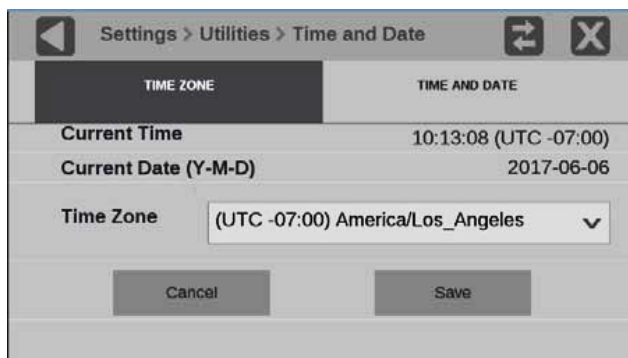

Figure 84: Time Zone submenu
4. Select **TIME ZONE** to open the submenu. (See Figure 84.)